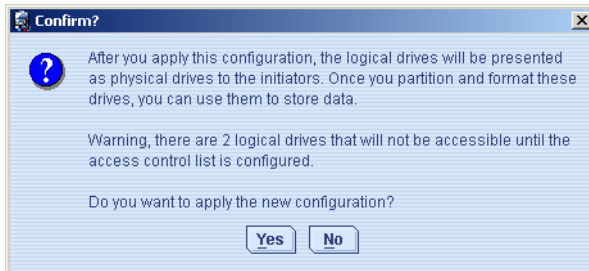

Figure 4-114 Confirm configuration
30. Confirm the configuration and check for warnings. In this example, two logical drives are not accessible after applying the configuration. Apply the configuration by clicking **Yes**. Figure 4-114.